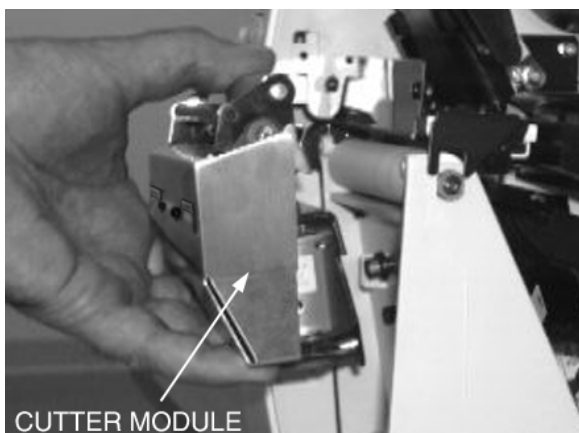

Figure 19 Cutter Module Removal
6. See Figure 19. Hold the Cutter Module as shown. Apply gentle upward pressure to the left and right ends while raising the Cutter Module up and away from the Mounting Posts. If necessary, rock the Module side-to-side to loosen it.
1. See Figure 19. Position the Cutter Module above the Cutter Mounting Posts. Press down on the Cutter Module until the Mounting Slots engage the Mounting Posts on the printer.